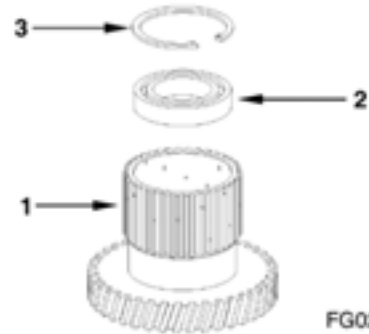

Figure 230
4. Install ball bearing 50x90x18 (2, Figure 230) into the idler gear (1, Figure 230) until contact is obtained and attach it using retaining ring 90x3 (3, Figure 230).